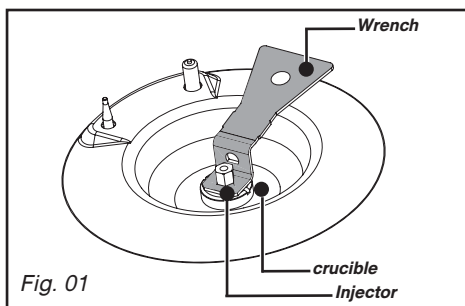

Fig. 01
– **Use a flexible metal hose** (stainless steel) with **screw-on mechanical** connectors (compliant with the NF D 36-125 standard) with an unlimited guarantee (Fig. 01).
- Using the tool provided, unscrew and remove the injectors located under each crucible (Fig. 01).